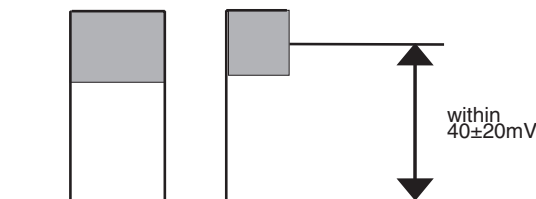

Fig. 8
3. Press " 7 ". The display will momentarily show " SECAM B-L ". Adjust the blue by pressing the " CH ▲ / ▼ " buttons. Adjust the blue like Fig.8.